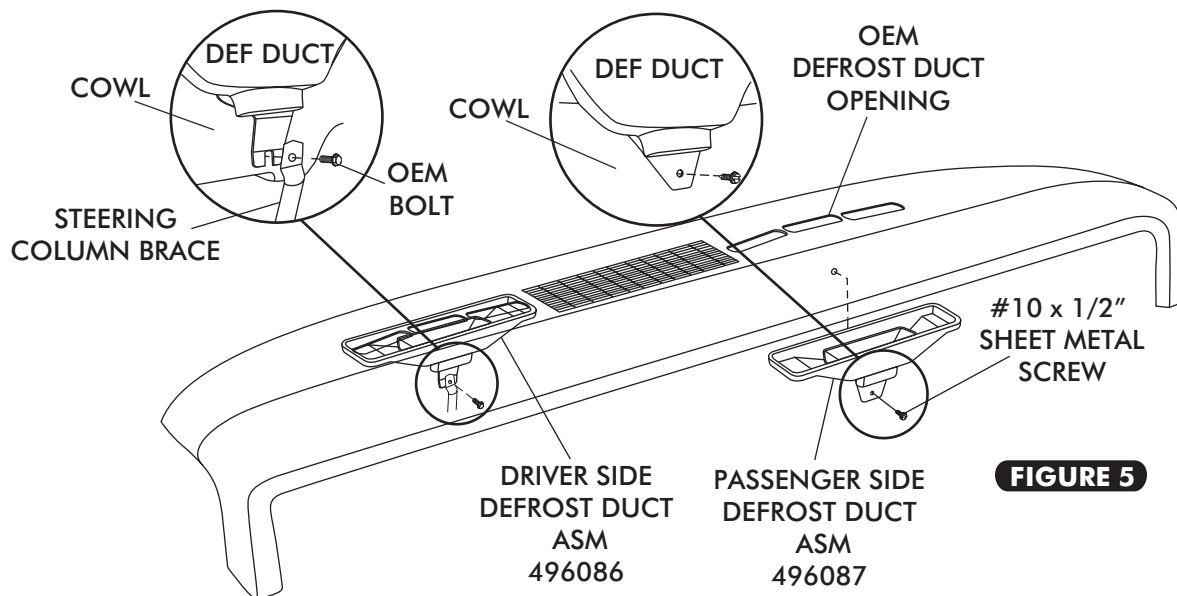

FIGURE 5
- INSTALL DEFROST DUCTS UNDER DASH AND ALIGN WITH OEM OPENING. INSTALL THE PASSENGER SIDE DEFROST DUCT TO COWL USING #10 x 1/2" SHEET METAL SCREWS. SEE FIGURE 5, BELOW. **NOTE: DRIVER SIDE DEFROST DUCT INSTALLS BEHIND STEERING COLUMN BRACE AND SECURES USING STEERING COLUMN OEM BOLT AS SHOWN BELOW.**